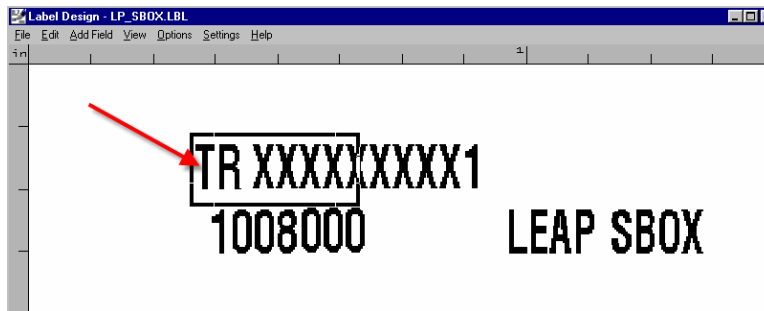

Figure 1-12
1.18.3. Click on the *TR*. That field will be selected. (Figure 1-12)